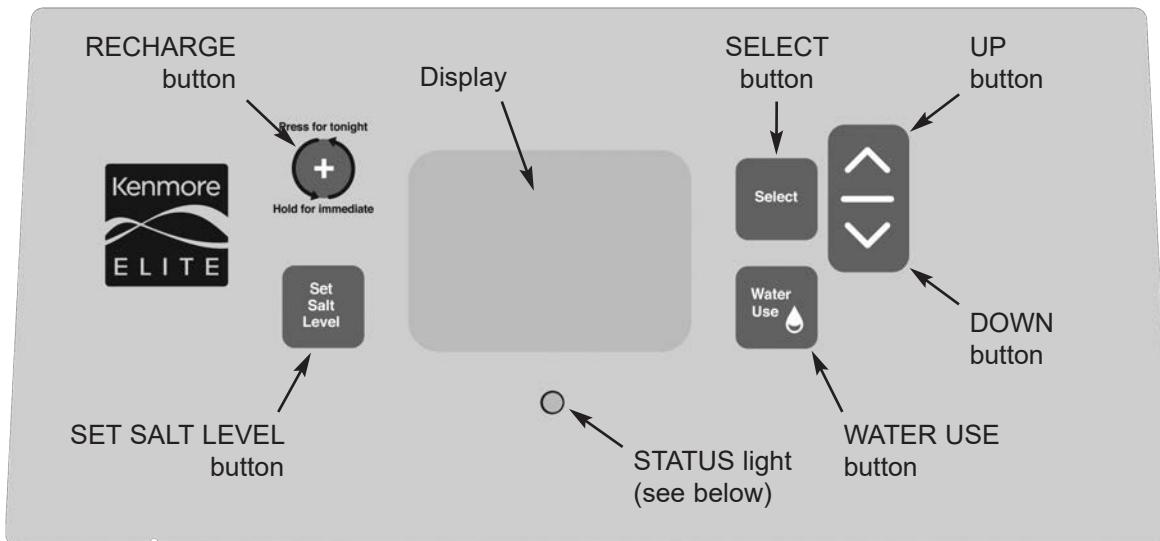

FIG. 16
5. Initiate a regeneration by pressing and holding for 3 seconds the RECHARGE button (see Figure 16 on page 14). The valve motor will start running and the valve will advance to the "Fill" position.